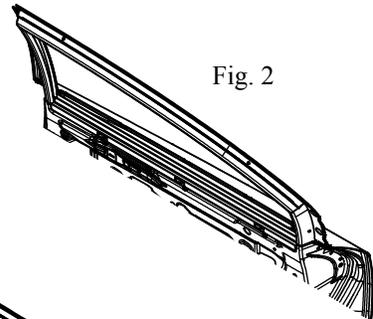

Fig. 2
1. Remove the OEM rubber molding from the OEM Door Panel (See Fig. 2) and replace on to the vehicle door window frame. (See Fig. 2)